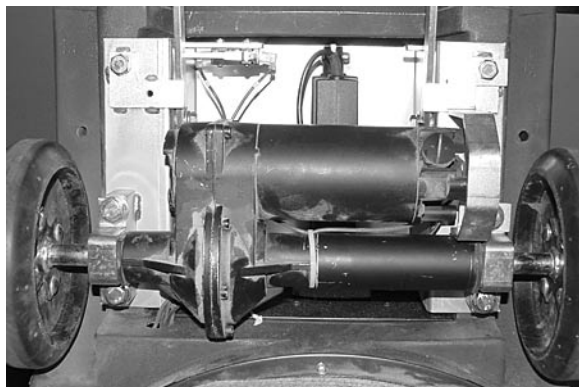

Fig. 1
2. With adequate assistance, carefully turn the machine upside down to access the drive transaxle motor (Figure 1).